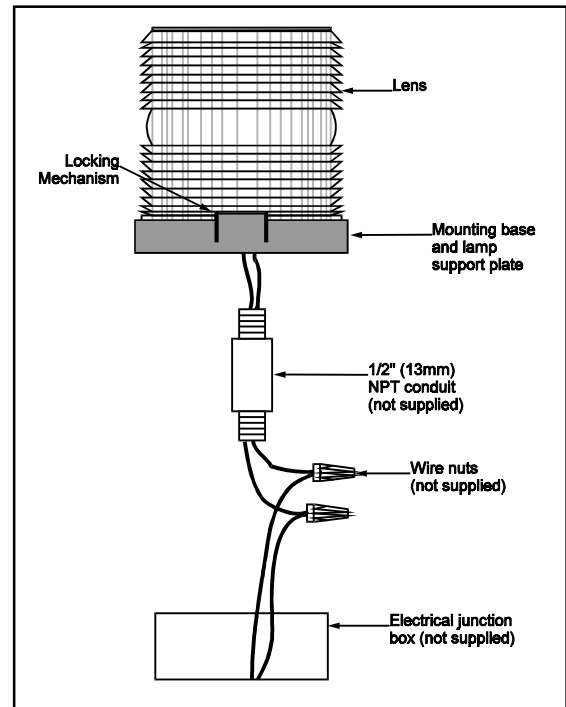

Figure 1. Conduit Mounting of the 96B and 98B Series Signals
1. Refer to Figure 1. The signals require 1/2" (13 mm) NPT conduit (not supplied). Route the wire leads from the signal base through the conduit. Refer to the signal's label for the voltage rating. Thread the conduit into the signal mounting base.
**96B Series:** Using wire nuts (not supplied), connect the field wiring to the signal's wire leads as shown in Figure 1. Polarity is not important. Insert the wires into an appropriate electrical junction box (not supplied).